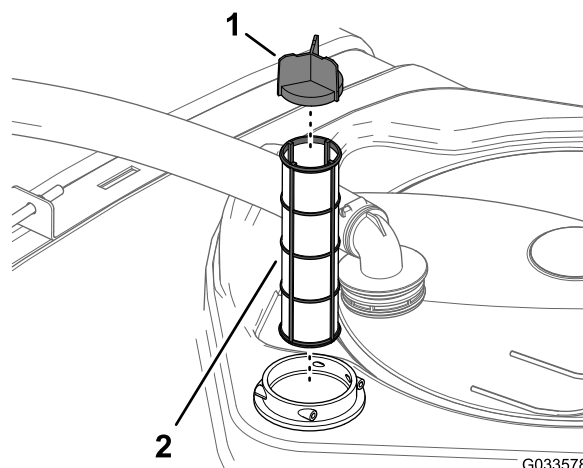

**Figure 28**
- At the top of the sprayer tank, remove the retainer that secures the hose fitting attached to the large hose from the filter housing (Figure 28).
- Remove the hose and hose fitting from the filter housing (Figure 28).